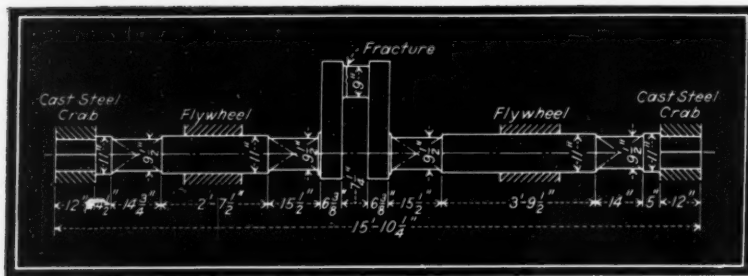

Fig. 4—Jamming of rolling mill causes failure of crankshaft through variable stress and stress concentration
**CRANKSHAFT.** A fracture of frequent occurrence is that of the crankpin of a crankshaft. *Fig. 4*, a drawing of a crankshaft of a rolling mill engine, serves admirably as an example. The mill jammed frequently, which increased the effect of the reciprocating force applied by the connecting rod on the crankpin. The frac-